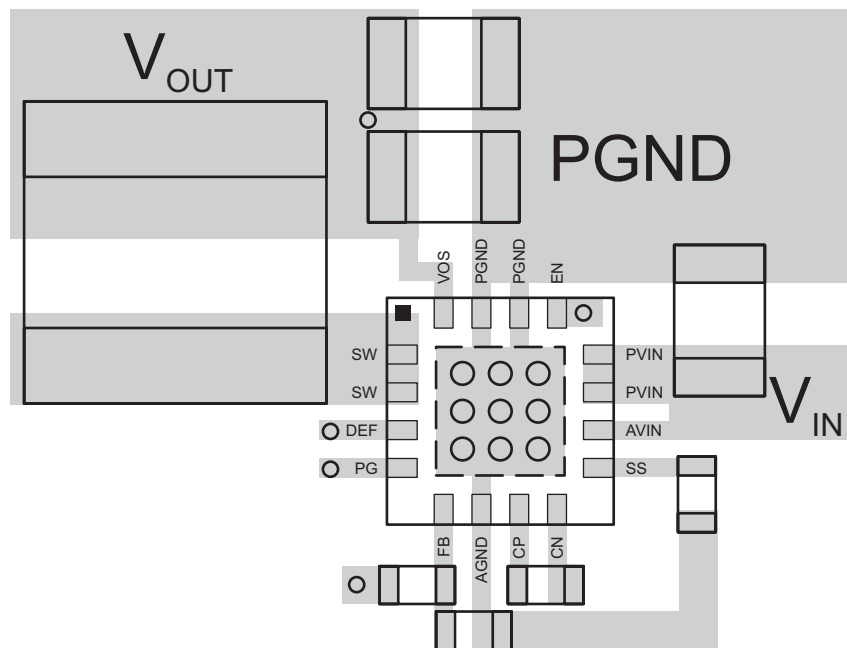

Figure 26. TPS62095 PCB Layout
- Refer to Figure 26 for an example of component placement, routing and thermal design.